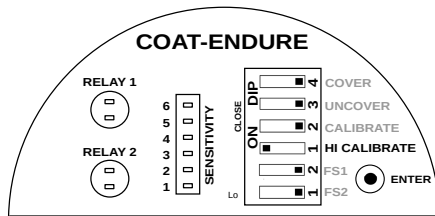

Figure 14: High Calibration Switch Position
- To start with the calibration, set the HI CALIBRATE switch to CLOSE (Opposite of OPEN for DIP switch) position as shown in Figure 14 and wait until Green LED becomes stable.